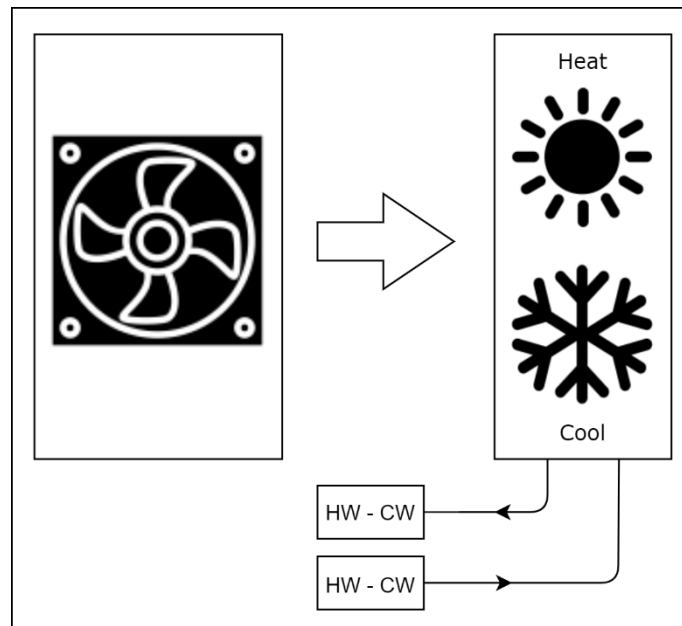

Figure 18 2 pipes fan coil system
Fan coil system refers to the water distribution system serving the in a building. There are two types fan coil systems. The 2 pipes system consists of a single water source connected to two pipes as supply and return, and valve that can function as cold water(CW) or hot water(HW) depending on the mode of the system. This type of fan coil cannot work in cooling and heating mode at the same time. The operation of 2 pipes system is demonstrated in Figure 18.